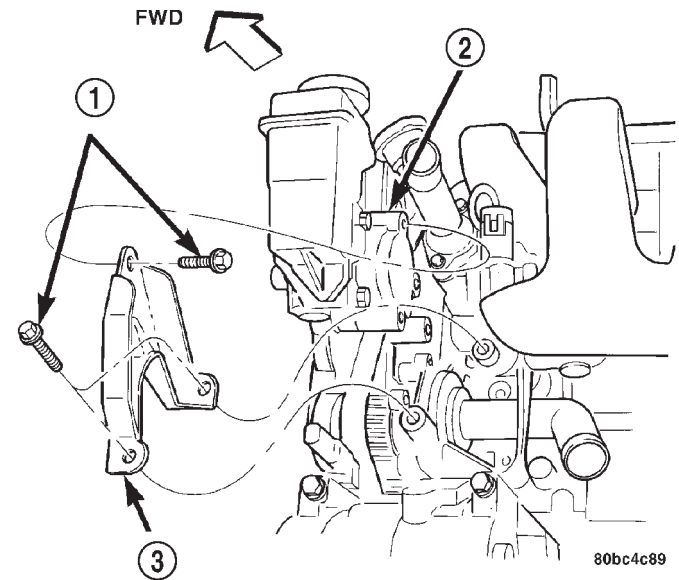

Fig. 3 Power Steering Pump Support Bracket
(6) Remove the mounting bolt securing the support bracket to the rear of the power steering pump (Fig. 3).
(7) Loosen the two mounting bolts securing the support bracket to the engine block (Fig. 3).
(2) Install the mounting bolt securing the support bracket to the rear of the power steering pump (Fig. 3). Do not completely tighten the bolt at this time.
(3) Tighten the two mounting bolts securing the support bracket to the engine block (Fig. 3). Tighten the bolts to a torque of 54 N·m (40 ft. lbs.).
(4) Tighten the mounting bolt securing the support bracket to the rear of the power steering pump to a torque of 28 N·m (250 in. lbs.).
(5) Install the power steering pump drive belt on the power steering pump pulley. Refer to ACCES-